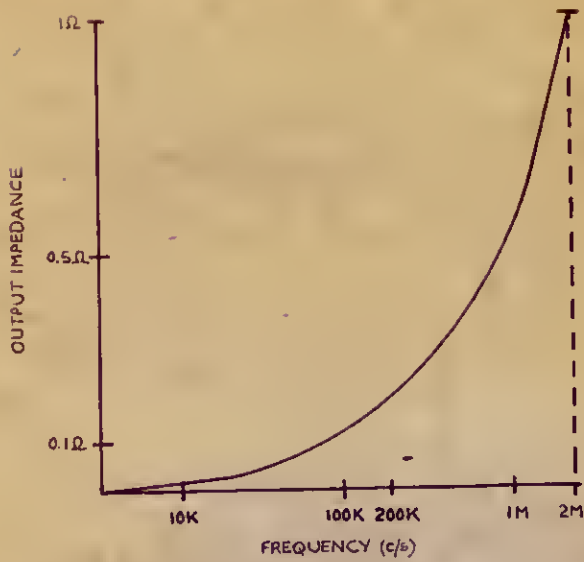

Fig 2. Output Impedance
See Fig. 2.
- (iii) *Output Impedance*—For alternating load superimposed on a steady load, the output impedance of the supply increases with frequency, due to fall off in gain of the amplifier until it is determined only by the capacitor across the output terminals. A typical output impedance-frequency curve is shown in fig. 2. This again is measured with the appropriate O/P and F/B terminals linked at the terminals.